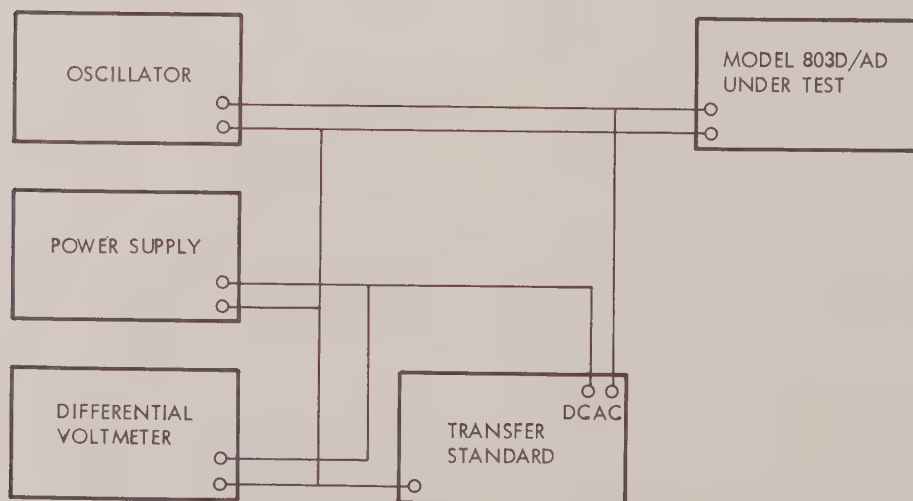

Figure 7-2. AC to DC Converter Calibration Setup.
- (1) Connect test equipment as shown in figure 7-2.
- (2) Turn on test equipment and allow 1/2 hour warmup.
(3) Adjust the dc power supply until the differential voltmeter indicates the rms value of the ac voltage required for calibration.
(4) Apply the dc power supply output to the transfer standard and adjust the internal power supply to null the transfer standard galvanometer.
(5) Apply oscillator output to the transfer standard and adjust the oscillator output to null the transfer standard galvanometer. The oscillator output is now equal to the required voltage.